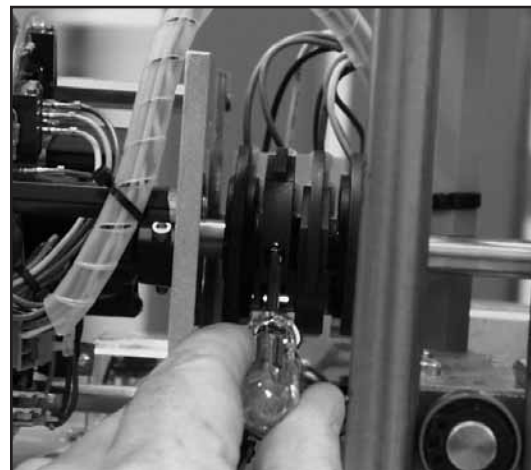

Figure 4
2. Use the electric Handswitch to drive the control shaft so that the EXT switch cam is accessible. Using a 7/64" hex wrench, loosen the screw so that the cam is just snug to the shaft. See Figure 4, page 37.